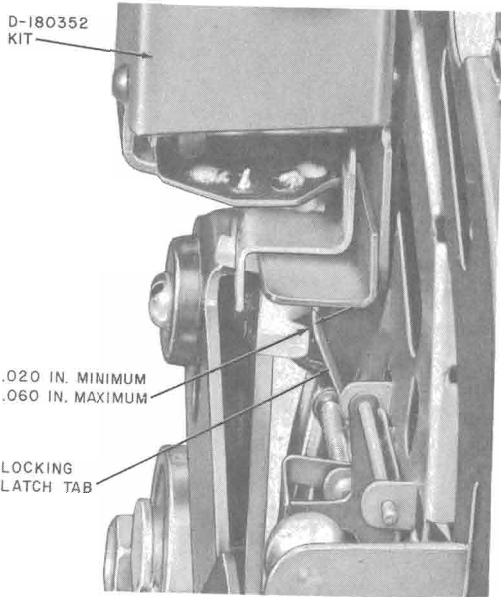

Fig. 6—Clearance Between "D" Kit Lever and Locking Latch Tab
- (1) With the armature in the normal position (unoperated), the clearance between the lever and locking latch tab shall be .020 minimum and .060 maximum (Fig. 6). The locking latch tab is adjusted by bending only the top portion of the latch to meet this gap requirement.